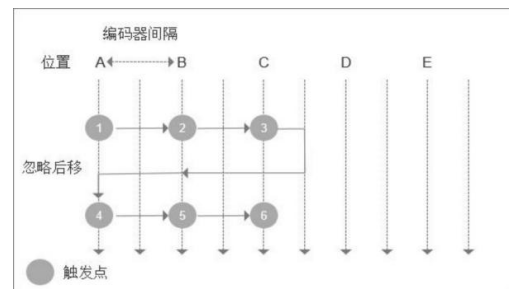

Figure 3.1.5 Ignoring Offset
(1) **Ignore backward movement:** Scanning is triggered only when the target object moves forward. If the target object moves backward, it must advance at least one encoder pitch to trigger the next scan, as shown in Figure 3.1.5.